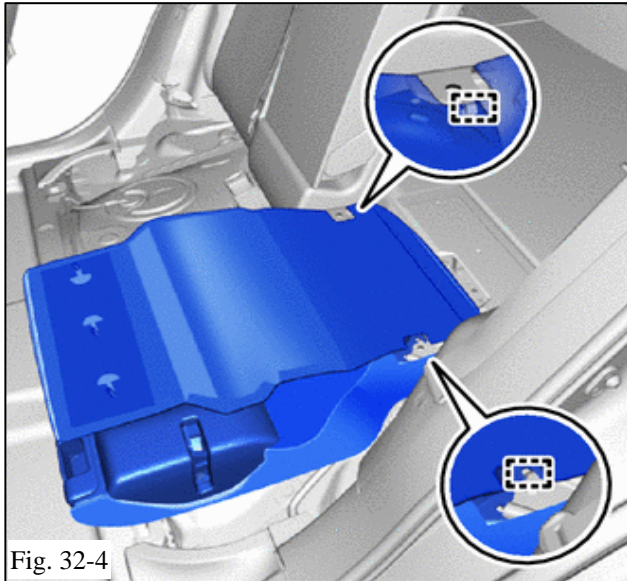

Fig. 32-4
S Torque LH Bolts (1) and (2): 36.8 N•m (27 lb•ft) (Fig. 32-4 and Fig. 32-5).
- (1) Verify the RR seat belts on both LH and RH not to be twisted and work properly after deck lower trim side panel assembly (LH and RH) rear seat garnish (LH and RH) are reassembled.
- (2) Verify if the parts fit together with no uneven gaps between them.
- (3) Remove vehicle protective tape.